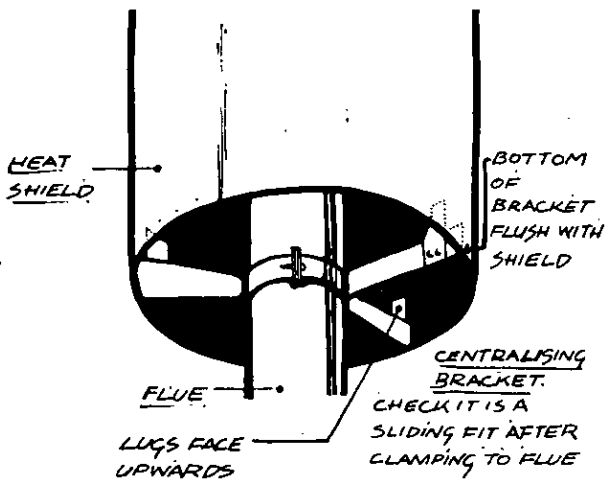

FIGURE 16
2.1.4 Clamp the Centralising Bracket with the lugs upwards, to the assembled Flue Sections so that the bottom of the bracket will be flush with the bottom of the Heat Shield when the flue is in place, Figure 16. Move the flue up and down to ensure that the Centralising Bracket is a free sliding fit within the Heat Shield. This is to accommodate expansion and contraction of the flue. If the bracket is tight, bend the ends of the arm's slightly to achieve the desired fit.